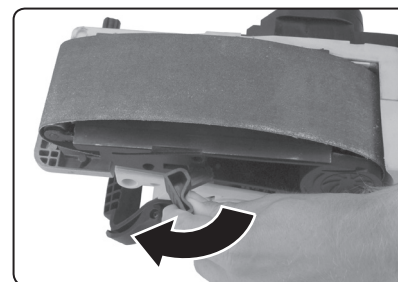

Fig. 4
1. Fully tilt out the lever of the quick coupling system - this will release the belt from the rollers (fig. 4).